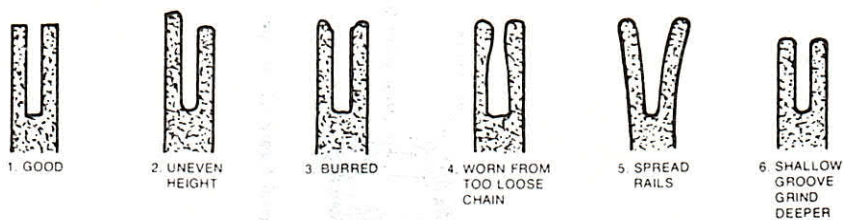

Fig. 11—Wear Pattern in Guide Bar Groove and Bar Rails
9.22 If the bar is not in good condition, replace it as soon as possible for wear patterns. See Fig. 11.